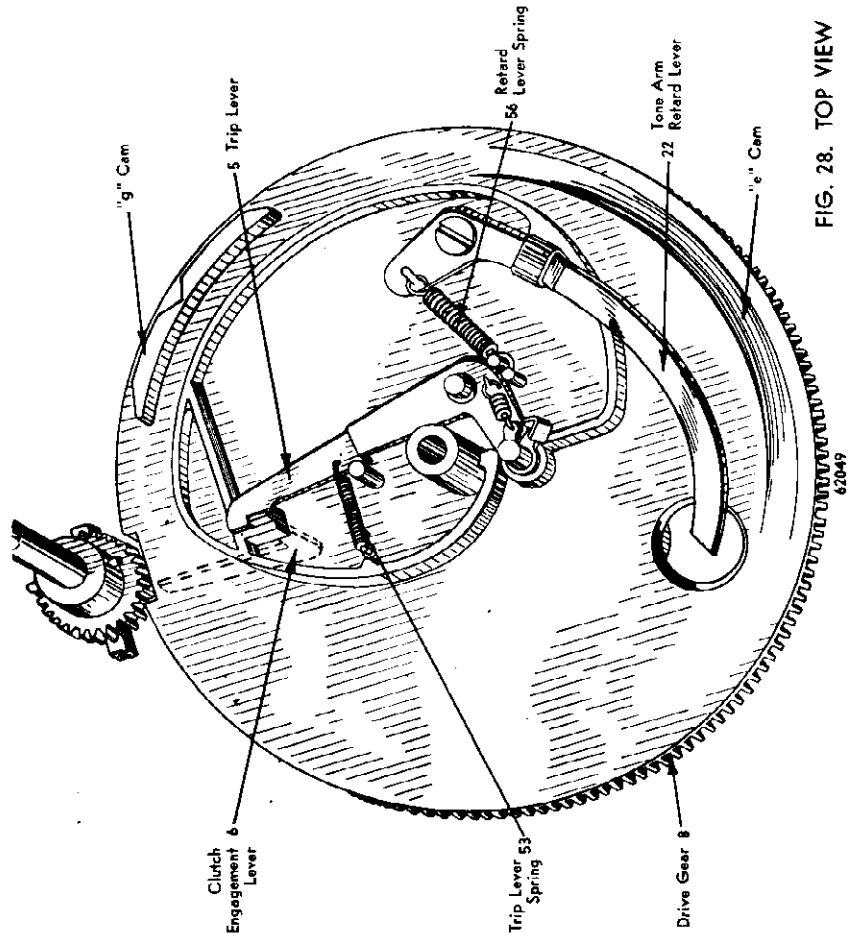

FIG. 28. TOP VIEW
2. To prevent action of the booster spring (23) until such a time that the needle has actually landed on the margin of the record. (See fig. 28)
3. Tone arm retard lever (22) binds. Examine its pivot point for foreign matter between gear casting and shoulder screw. Also examine retard lever spring (56) for proper action. (Fig. 28)
6. Trip lever (5) binding at its pivot point and failing to unlatch engagement lever. Examine for foreign matter between gear casting, lever and shoulder screw. (See fig. 28)
1. **FAILURE OF CLUTCH ENGAGEMENT LEVER (6) TO LATCH.** With the mechanism stopped in the playing position (pinion in open tooth portion of drive gear), latch the clutch engagement lever with the aid of a pencil and unlatch by moving the control knob to "REJECT." Repeat this several times. If it fails to latch:
- a. Examine the trip lever (5) for binds or insufficient tension in the trip lever spring (53). Replacement of a weak spring will give a positive latch-up. Do not increase tension to a point where it will cause a trip failure. (See fig. 28)
- b. Control knob binding in "REJECT" position due to sticking control slide (1) or its associated levers and springs. Examine for loose or missing springs.